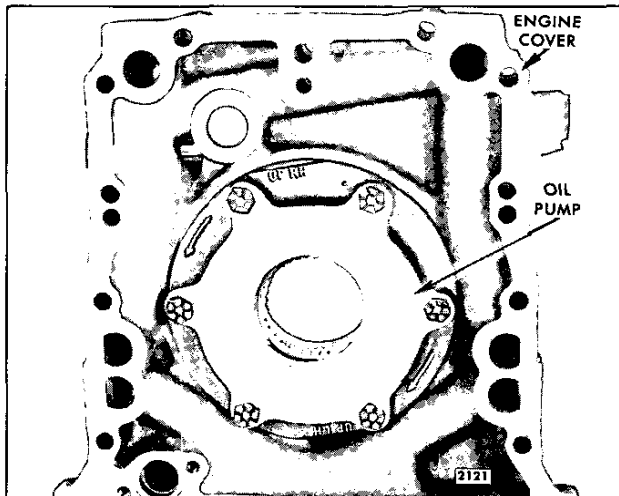

Fig. 1 - Typical Right-Hand Rotation Oil Pump Mounting
The lubricating oil pump, assembled to the inside of the lower engine front cover as illustrated in Fig. 1, is of the rotor type in which the inner rotor is driven by a gear pressed on the front end of the crankshaft. The outer rotor is driven by the inner rotor. The bore in the pump body, in which the outer rotor revolves, is eccentric to the crankshaft and inner rotor. Since the outer rotor has nine cavities and the inner rotor has eight lobes, the outer rotor revolves at eight-ninths crankshaft speed. Only one lobe of the inner rotor is in full engagement with the cavity of the outer rotor at any given time, so the former can revolve inside the latter without interference.
6. Remove the six bolts and lock washers (if used) which attach the pump assembly to the engine front cover and withdraw the pump assembly from the cover (Fig. 1).